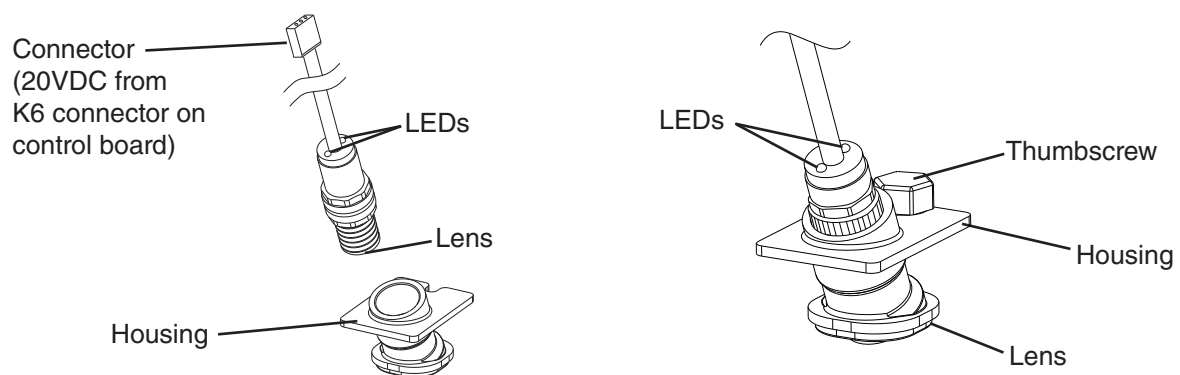

Fig. 3
- 4) Confirm that BC1 is connected to CB K6 connector. Wipe down the lens with a warm, clean, damp cloth. If the bottom of the icemaker is not accessible in your application, remove the thumbscrew securing the BC1 housing, then remove the housing from the base. See Fig. 3.
- 6) Move the power switch to the "ON" position to start the automatic icemaking process. Check that BC1 green LED is on. The BC1 green LED confirms 20VDC from CB to BC1 and remains on constantly. **Diagnosis:** If the BC1 green LED is not on, confirm 20VDC at CB K6 pin #1 (DBU) to CB K6 pin #3 (BR). If 20VDC is present and the BC1 green LED is off, replace BC1. If not, see step "3) BC1 (infrared sensor) Power Supply," under "II.C. Control Board Check."